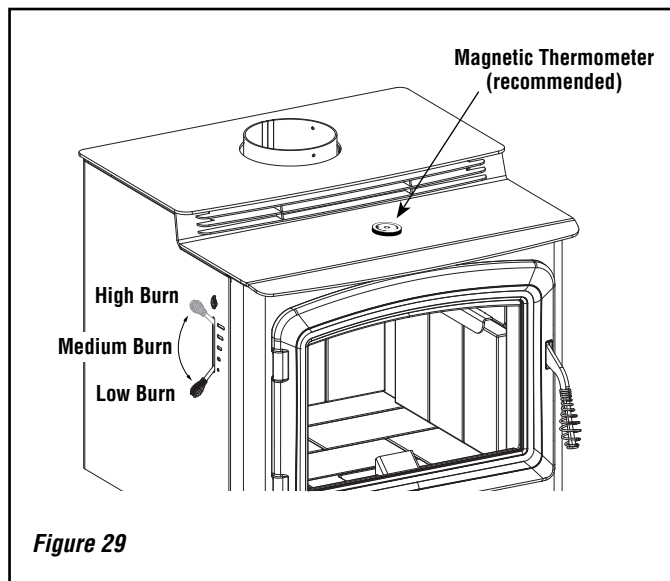

Figure 29
5. **When operating any wood burning appliance, it is important to become familiar with how the damper control affects heat output and the overall temperature of the appliance. A stove thermometer can be a helpful tool to help ensure you are not over-firing your appliance and it will also ensure you are burning fuel at a rate that is most efficient. Place a stove thermometer on the top of the appliance as shown in *Figure 29*. Monitor the temperature every 15 minutes or so until you become more familiar with your appliance. Close the damper all the way down if you begin to reach 500 degrees, as this is a sign that you are operating your appliance at too high a temperature.**